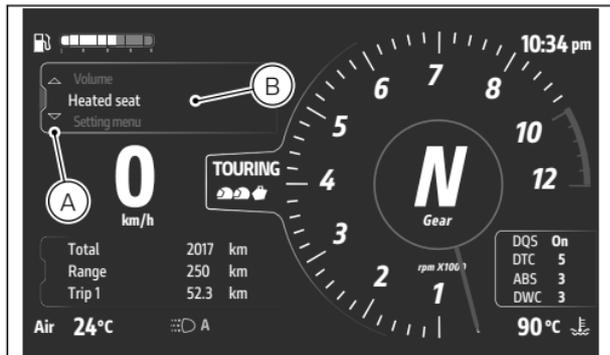

Fig 175
- Select the Interactive Menu (A, Fig 175) by pressing and holding the joystick in ▲ position for a long time.
- Use joystick ▲ ▼ to select “Heated seat” (B, Fig 175) and press ENTER.